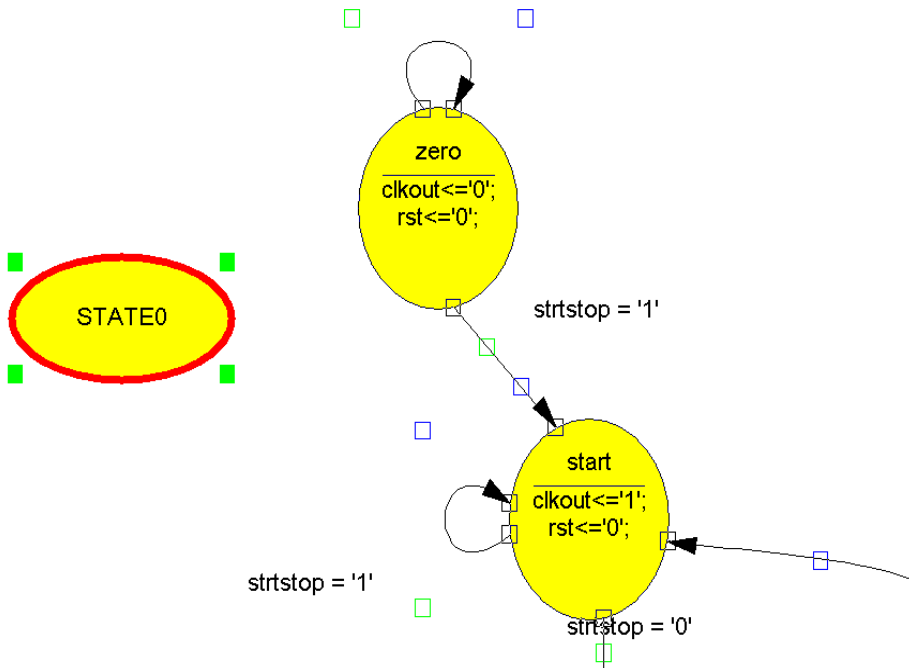

Figure 2-18 Adding the CLEAR State
2. Place the new state on the left-hand side of the diagram as shown Figure 2-18. Click the mouse to place the state bubble.